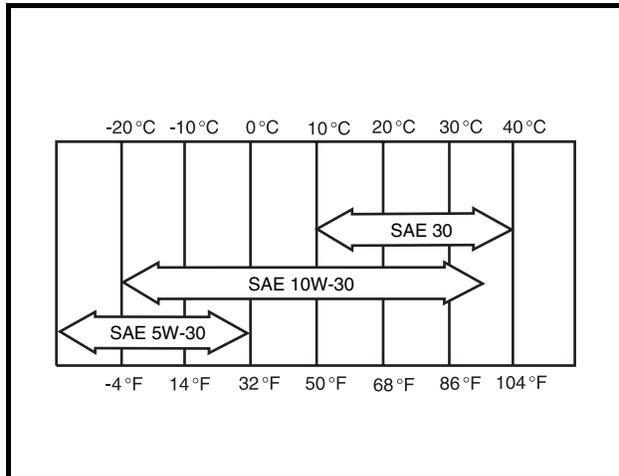
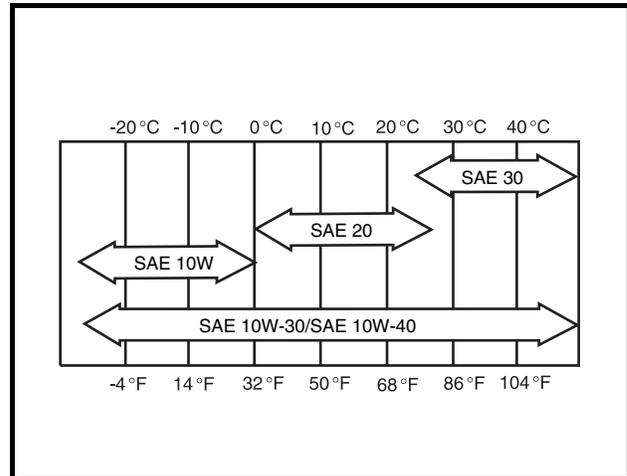

Figure 10-14 Oil Viscosity Chart – Gasoline
Figure 10-15 Oil Viscosity Chart – Diesel
1. Add engine oil; use a funnel or pour spout to direct the oil into the opening (**Figure 10-12, Page 10-10 or Figure 10-13, Page 10-10**). With filter change, the engine requires 1 qt., 25 oz. (1.7 L) of oil per change for gasoline vehicles and 3 qt. (2.8 L) for diesel vehicles. Refer to oil viscosity guidelines for selection of oil grade (**Figure 10-14, Page 10-11 or Figure 10-15, Page 10-11**).
Choose the viscosity according to the temperature as shown in the appropriate oil viscosity chart (Figure 10-14, Page 10-11 or Figure 10-15, Page 10-11). See following NOTE.